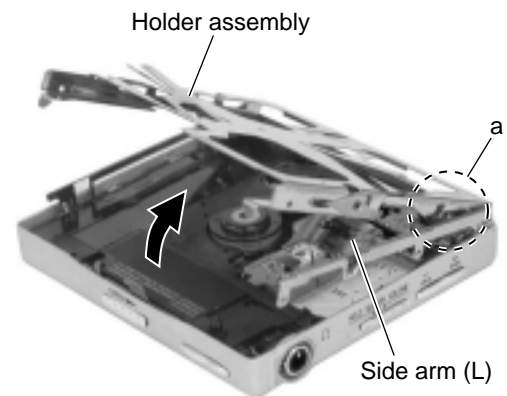

Fig.3
■ Removing the holder assembly (See Fig.3 and 4)
1. Turn the holder assembly as shown in Fig.3.